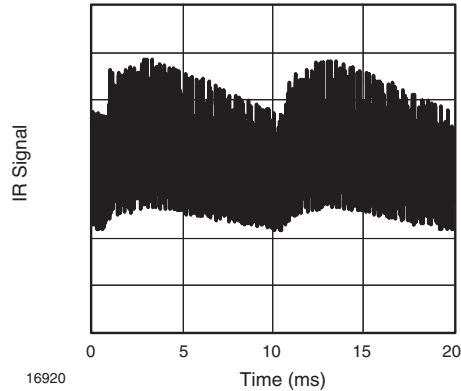

Fig. 13 - IR Signal from Fluorescent Lamp with Low Modulation
- Strongly or weakly modulated noise from fluorescent lamps with electronic ballasts (see fig. 13 or fig. 14)